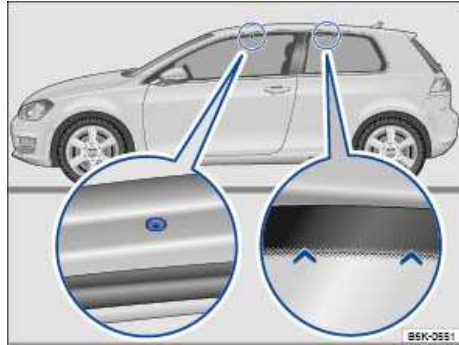
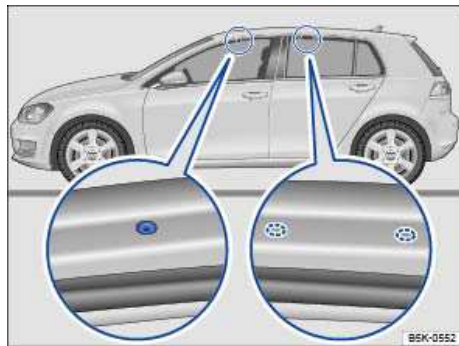

Fig. 96 Mounting points for the base carrier and roof rack on 2-door vehicles.
Fig. 97 Mounting points for the base carrier and roof rack on 4-door vehicles.
The front mounting holes are on the underside of the roof frame. They are sealed with plastic screws that must be removed before installation ⇒ fig. 96 (magnified view on left). The holes are only visible when the door is open. The rear markings for the base carrier are above the rear side windows ⇒ fig. 96 (magnified view on right).
The front mounting holes are on the underside of the roof frame. They are sealed with plastic screws that must be removed before installation ⇒ fig. 97 (magnified view on left). The rear markings for the base carrier are on the underside of the roof frame ⇒ fig. 97 (magnified view on right).
- Secure the roof rack base carrier only at the attachment points shown in the illustration ⇒ fig. 96 or ⇒ fig. 97.